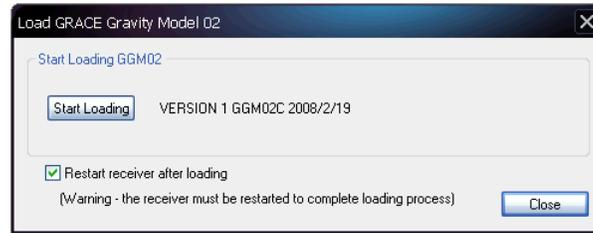

Figure 79: Load Grace Gravity Model 02
3. Click . The *Load GRACE Gravity Model 02* dialog box opens (see Figure 79).